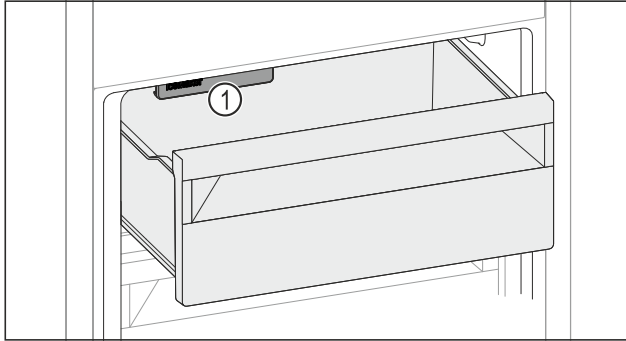

Fig. 224
- ▶ Watch out for the IceMaker Fig. 224 (1).